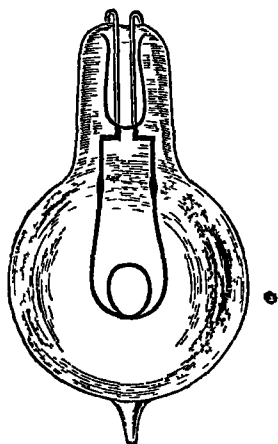

FIG 218
**The Incandescent Lamp**—A twisted film of carbon attached to platinum wire is inserted in a small glass globe, and the air is exhausted. When the current from forty or fifty Grove cells is passed, the carbon is heated to incandescence, the resistance of such a lamp when incandescent varies, being from 100 to 200 ohms for ordinary sizes. The reason for the exhausting of the air is that the carbon may not join with the oxygen of the air and be destroyed (fig 218)